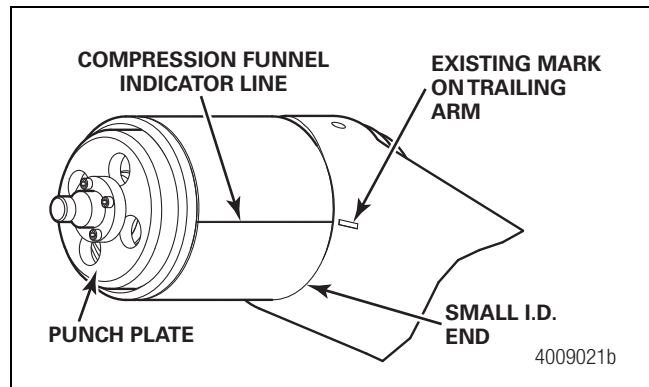

Figure 6.13
7. Place the small I.D. end of the compression funnel with the bushing over the draw bolt and onto the trailing arm bushing tube. Align the indicator mark on the compression funnel with the existing mark on the trailing arm. Figure 6.13.
9. Verify that the indicator line on the compression funnel lines up with the existing mark on the trailing arm. Figure 6.13.